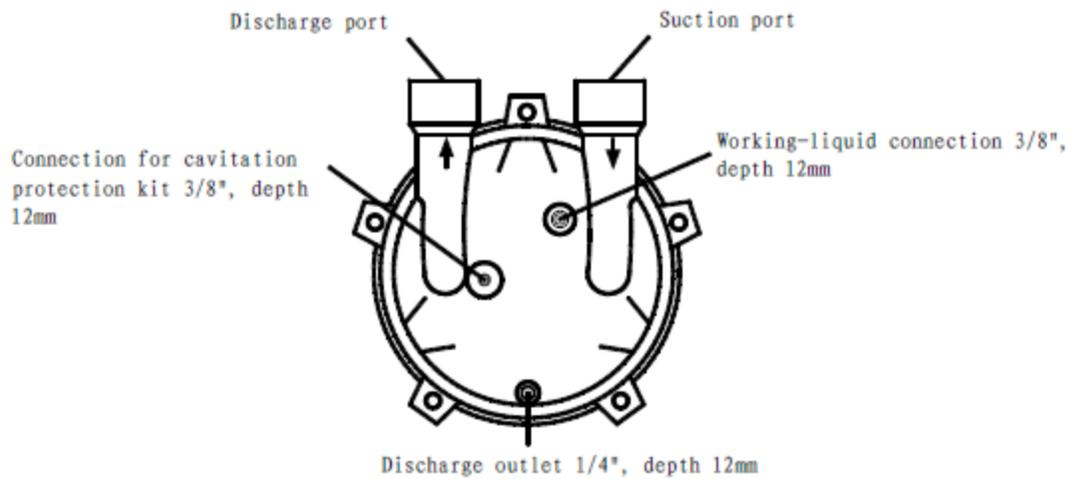

Fig. 2 Pipe Connection NCC- 20-75
liquid. This substantially reduces the necessary sealing liquid quantity (as seen in Fig. 2). For operation with cavitation protection (refer to section 3.2.2), ensure the enclosed hose connection (50) is placed between the separator and pump cover.